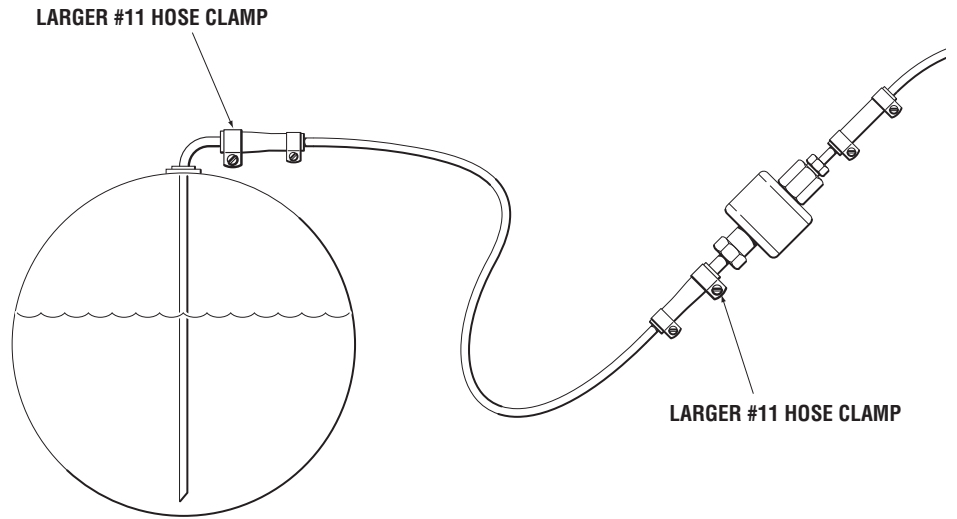

Figure 21. Hose Clamps.
6. Using # 11 clamps, connect both rubber hose connectors to the fittings (refer to figure 21).